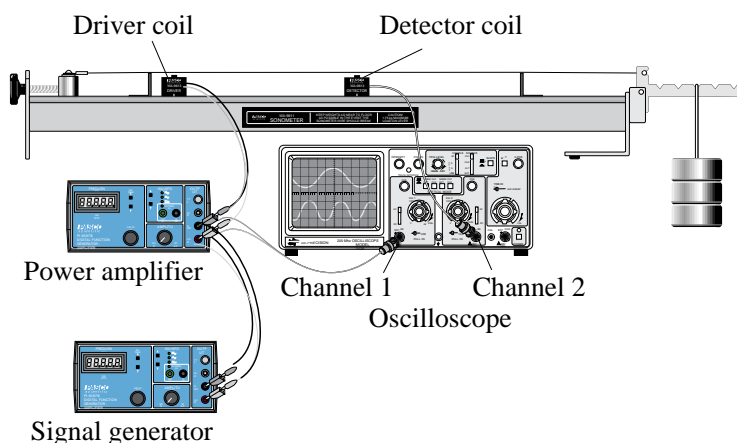

Figure 6. Equipment setup
1. Set up the Sonometer as shown in Figure 6.